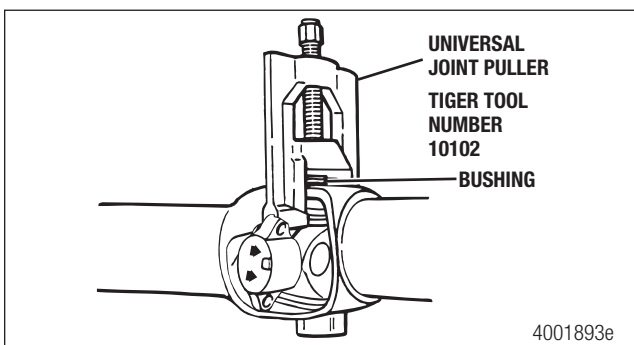

Figure 5.34
1. Position a universal joint puller (Tiger Tool number 10102). Refer to the Service Notes page on the front inside cover of this manual for information to obtain this tool. Figure 5.34.